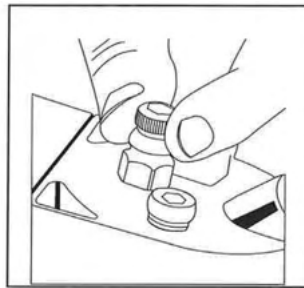

Figure 1
**AIR POCKET VALVE (see Figure 1):**